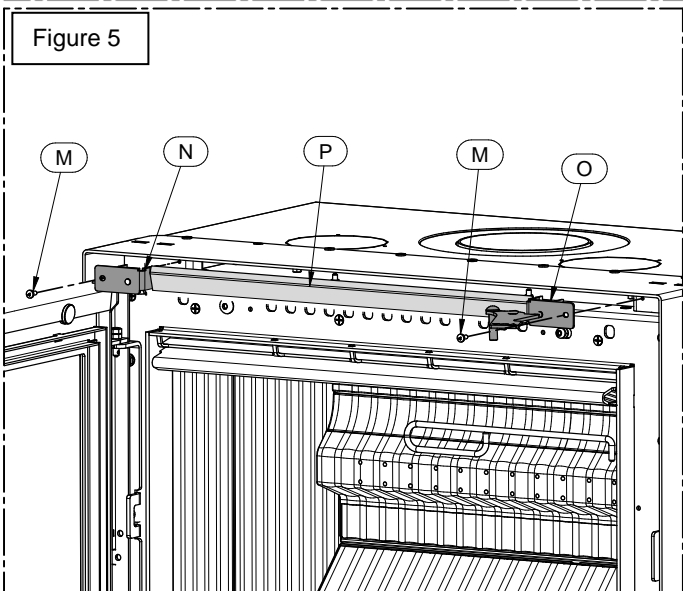

Figure 5
- 5) Install the ventilation bar (P) using the 2 screws (M), see Figure 5. Then reassemble the previously disassembled components.